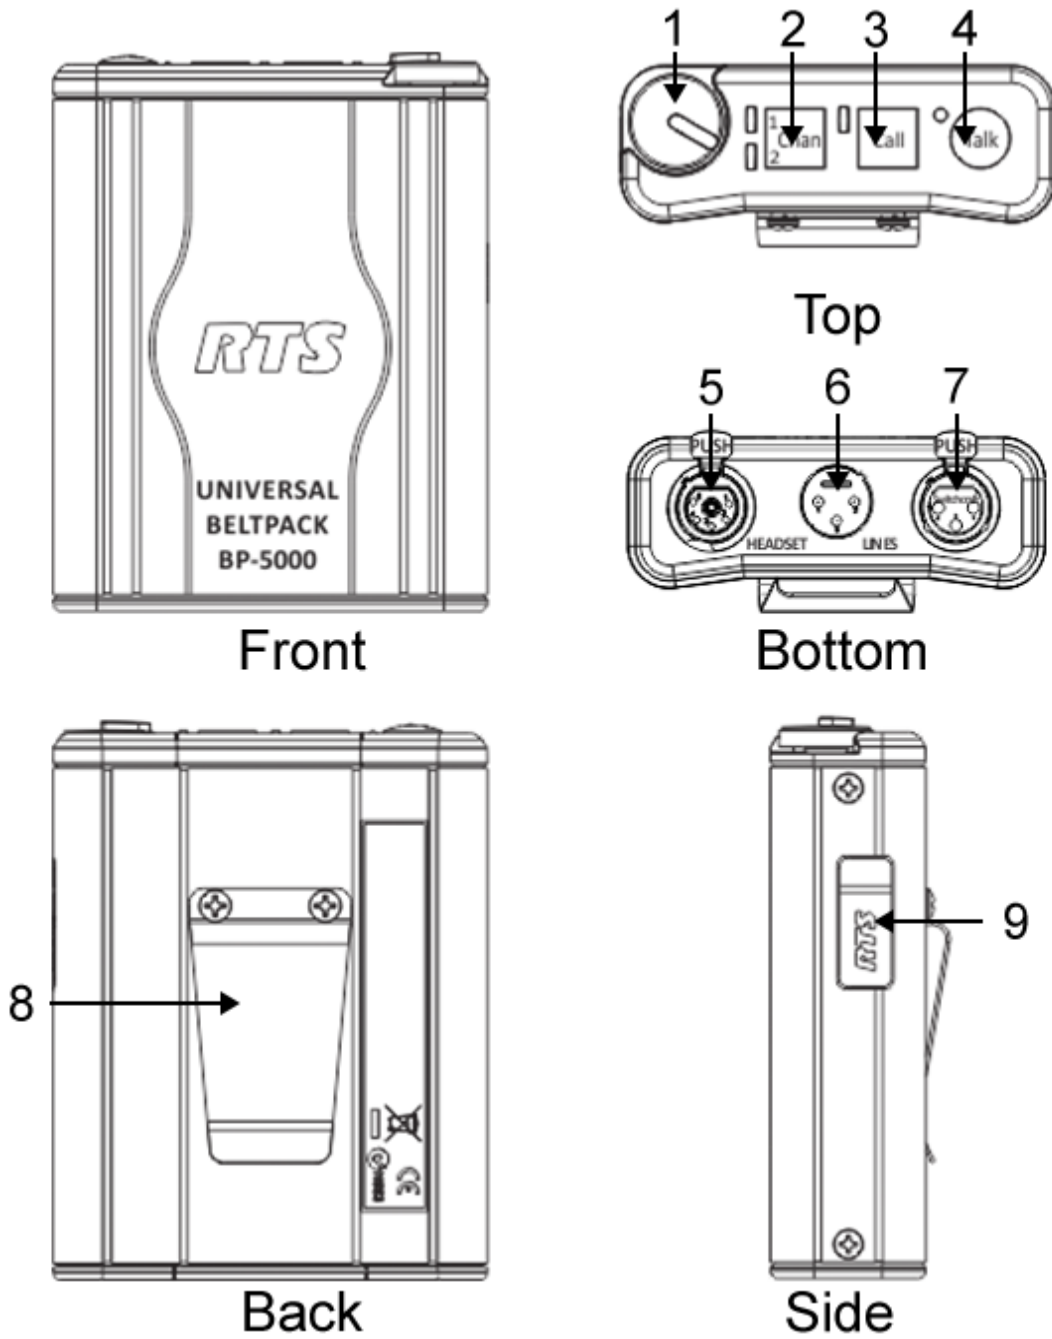

FIGURE 1. Reference View
**NOTE:** The numbers refer to the corresponding call-out numbers in Figure 1.